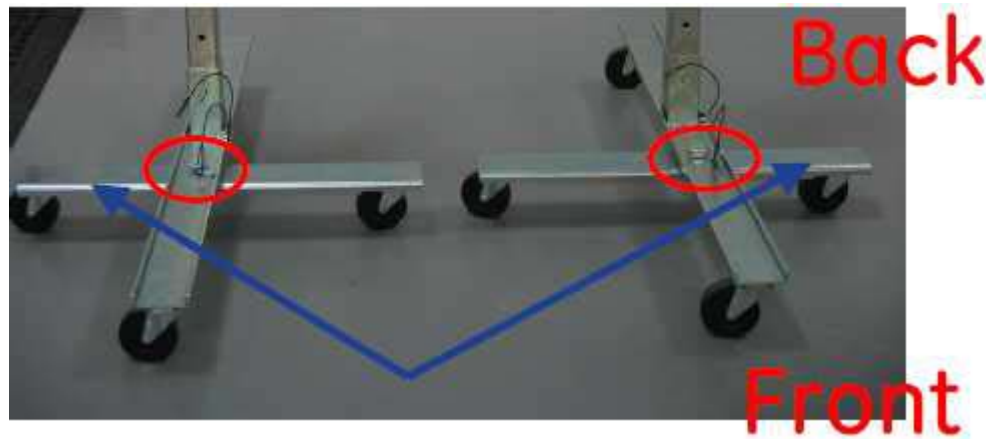

Figure A-13 Dolly Feet Configuration
- 6.) Position dolly so the pivot bolt for the feet is on the table side (front side) of the gantry (see Figure A-13).